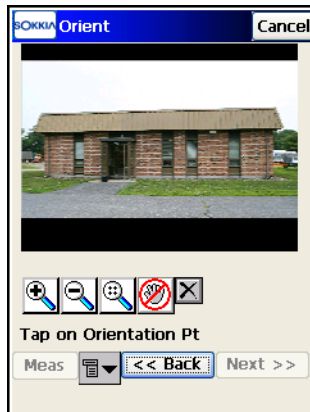

Figure 8-58. Perform Orientation
5. Perform image orientation. On the *Orientation* screen (Figure 8-58), associate a position on the image (x,y) with a known coordinate (N,E,Z).